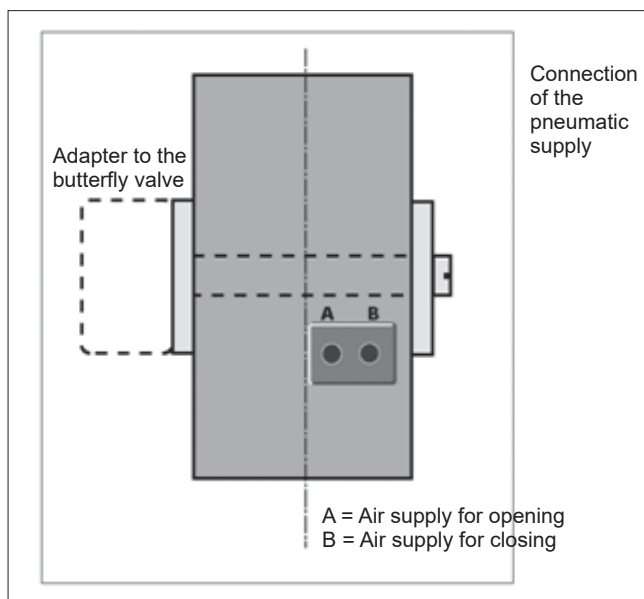

Fig. 7
- Connect the energy supply in a final operation (see Figure 7).